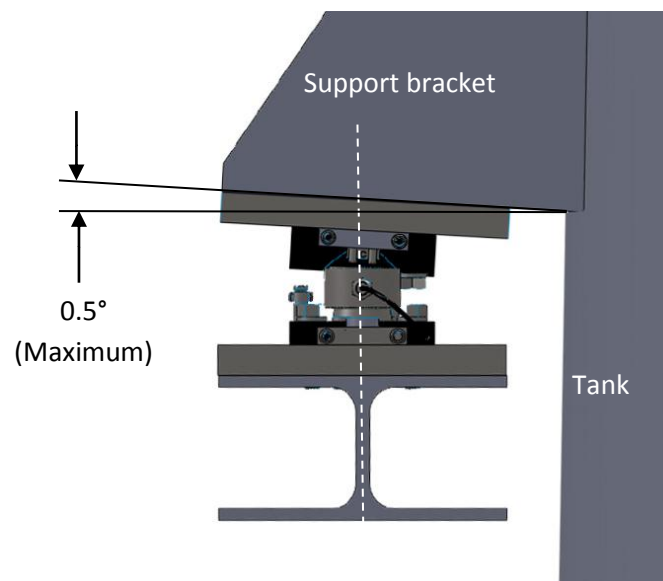

Figure 07 : Deflection limits of support brackets
- The support brackets for the weigh modules should not deflect more than 0.5° degree out of level at full capacity(See figure 07).